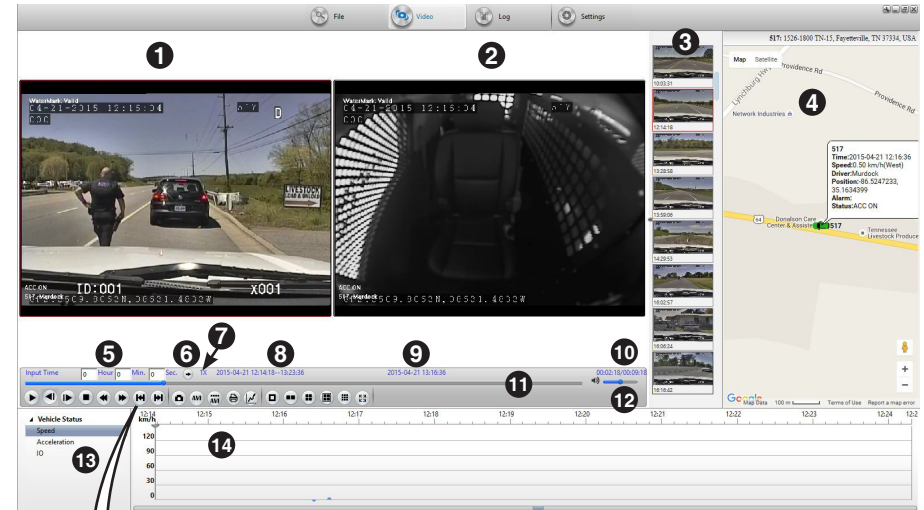

FIG. 16
Clicking this will jump the video to the time input into the **Input Time Fields** (#5 FIG 16)
Click on "Speed", "Acceleration" or "IO" to display the corresponding data in the *Event Monitor* on the right. (#14 - FIG 16)
You can speed up, slow down, and view your videos frame by frame. You can also use the **Playback Slider** (#11 - FIG 16) under the video to quickly go forward or backward in the video.
Use the **Playback Volume Slider** (#12 - FIG 16) to adjust the playback volume of the video file.
Double click on the video window (#1/#2 - FIG 16) you wish to enlarge. Double clicking on the maximized window will reduce it to its original size.
The **Event Monitor** (#14 - FIG 16) will graph and display any changes in the vehicle's G-Force along each axis (X,Y & Z) and the vehicle's speed in MPG & KPH during the recording. It also displays acceleration and any I/O events.
- 1 Use either the **'Play'** button or **Playback Slider** (#11 - FIG 16) to specify where in the video file you want to take a snapshot.
- 2 Click on the **'Report'** icon (L - FIG 16).